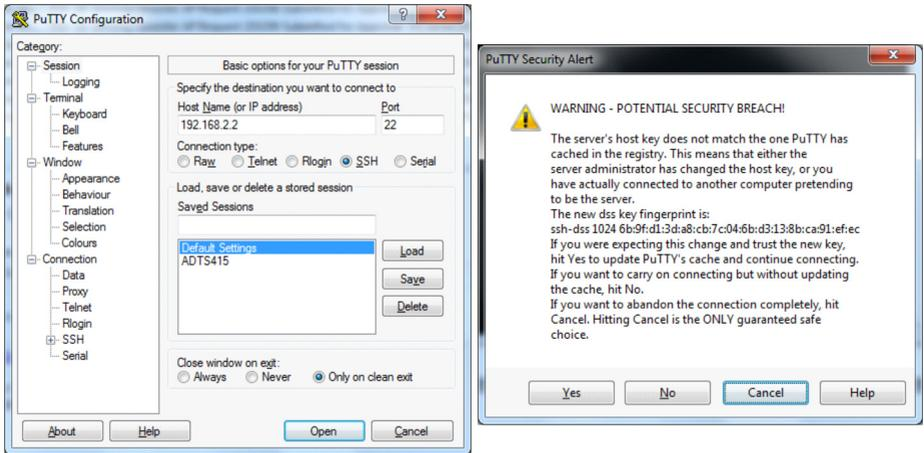

Figure 4-9: PuTTY Configuration
- b. Enter the supervisor IP address and select the SSH as the required connection type, see Figure 4-9.